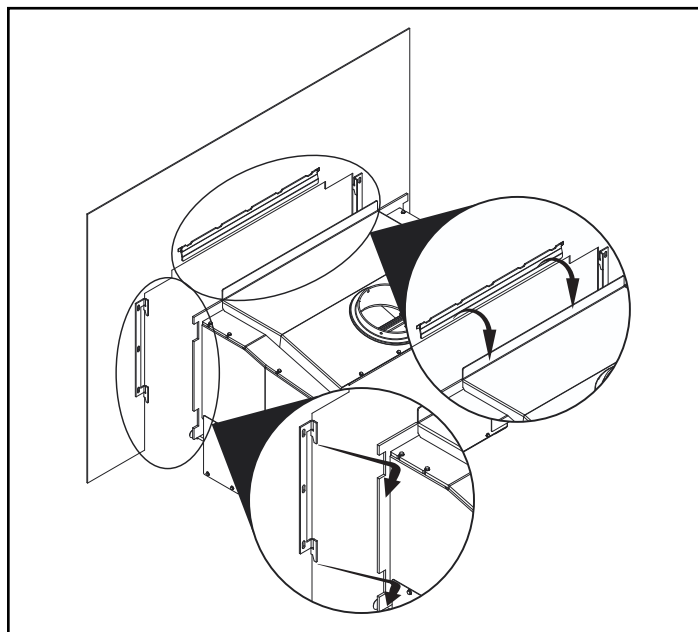

Figure 20.3
4. Lift surround to front of appliance (**Figure 20.3**).
2. Lift surround assembly to front of appliance (**Figure 20.3** on **page 20**).